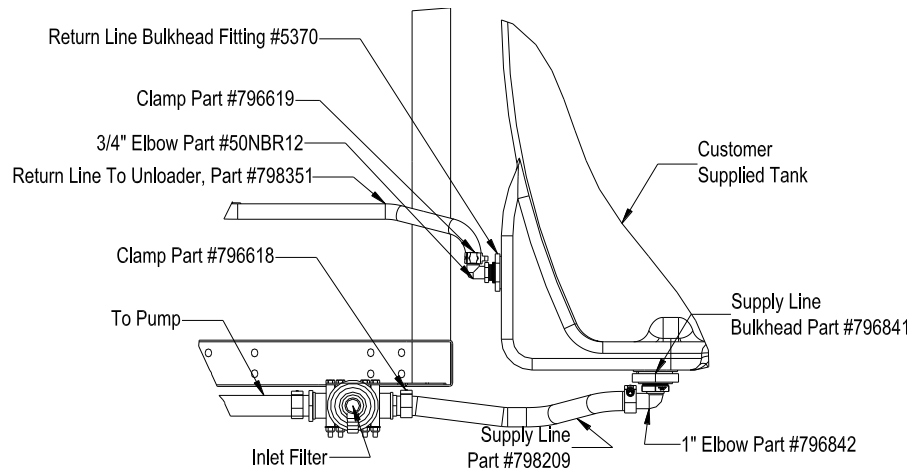

Figure 1
- Step 6.** Connect the supply line (1" supply line hose provided, Figure 1):
- Step 7.** Connect the return line (connected to the unloader on the skid, Figure 1):